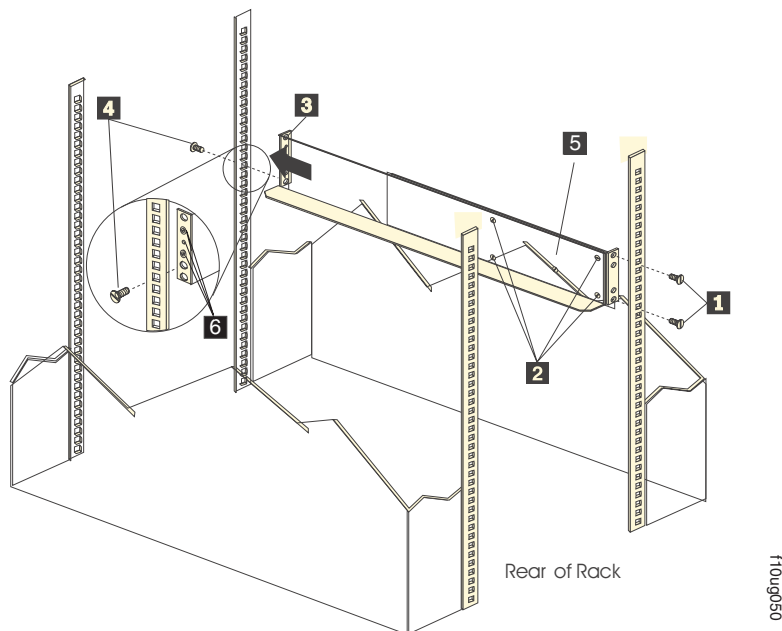

Figure 10. Installing the support rails
Note: Refer to Figure 10 on page 20 while performing these steps.
Note: The support rails are not marked as Left or Right. However, each rail can be correctly mounted on only one side of the rack cabinet. The rails should be mounted with the alignment pins at the front of the rack. Figure 10 shows the installation of the left support rail.
- d. From the back of the rack, insert the two 6/32 in. screws (**5** in Figure 10 on page 20), one on each side, in the holes on the side of the unit. Tighten the screws.